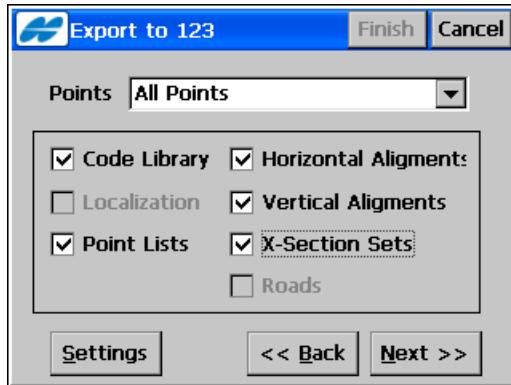

Figure 4-3. Export To Job
On the *Export to <Job name>* screen (Figure 4-3), select the data that you want to have exported along with the point data.
- **Next** – available if other data is chosen to export on the **Export to Job** screen (Figure 4-3 on page 4-3). Opens the next screen to select other objects (point types, horizontal alignments, vertical alignments, x-section sets or roads) which are similar to the **Point List(s) To Export** screen. Once the button becomes grayed out, tap the **Finish** button to start the export process.